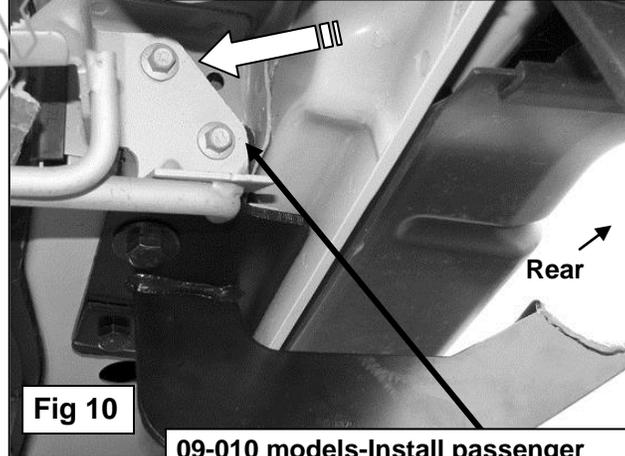

Fig 10
2009-012 Escape and Tribute models only: The passenger side rear Mounting Bracket installs between the factory exhaust support and the body panel. Remove the (2) 8mm hex bolts securing the bracket, move the exhaust support slightly and install the passenger side Mounting Bracket as per Step 9, **(see Figure 10)**. Reinstall the exhaust support using the factory hex bolts with (1) now inserted through the exhaust support and the Mounting Bracket. On the remaining top location, insert (2) 8mm Flat Washers between the body panel and the exhaust support to evenly space the support from the body panel. Tighten all hardware.